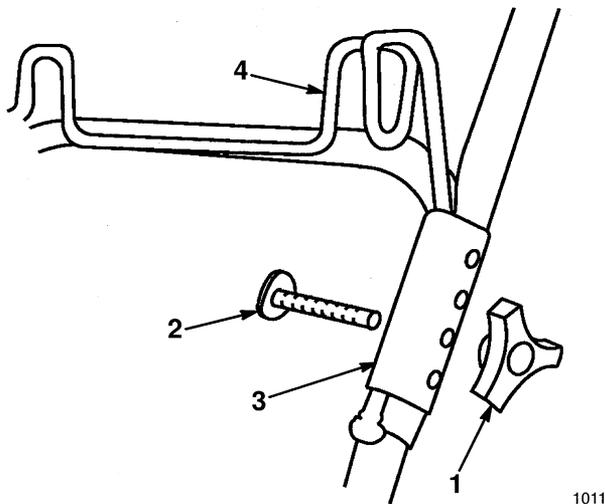

Figure 42
- Remove knob and bolt securing left side upper and lower handle sections (Fig. 42).